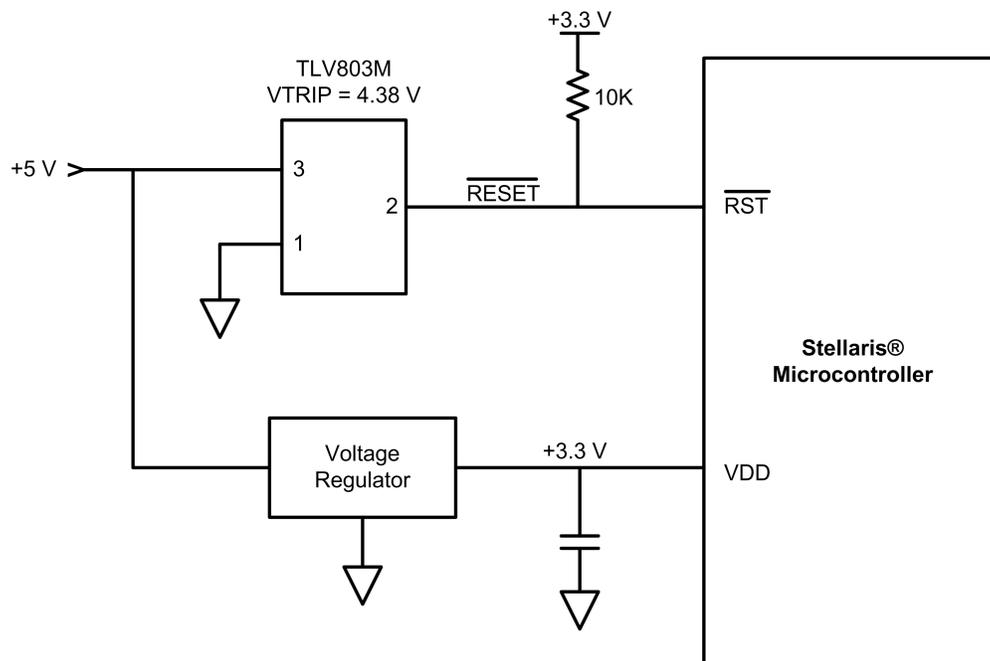
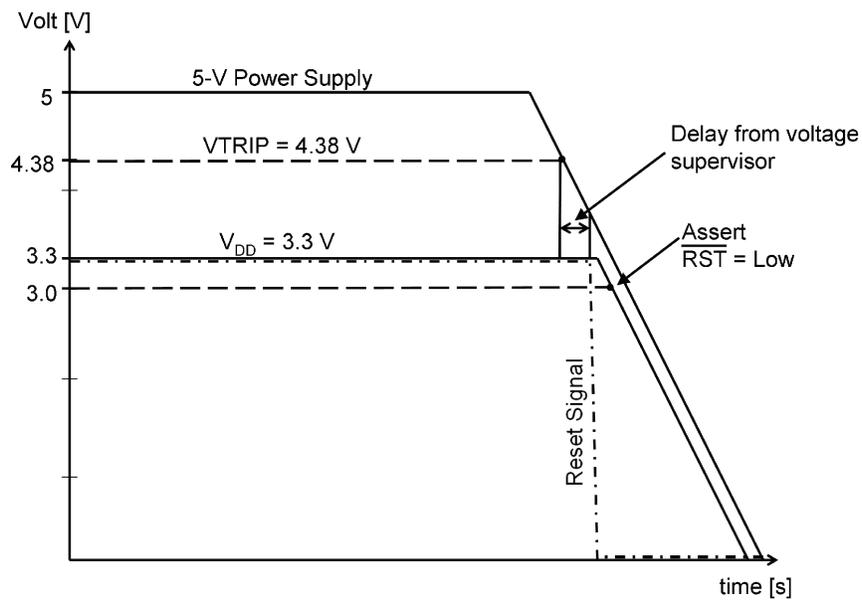

Figure 6. Using a Voltage Supervisor to Monitor the Voltage Rail
Figure 7. Resulting Waveform Using the Voltage Supervisor Circuit
Depending on the system environment requirement, items 4 and 5 in the above list may be met by using a voltage supervisor, such as the TLV803M, to monitor a higher voltage rail from which the VDD supply is regulated. Figure 6 shows this implementation with a voltage supervisor monitoring the 5-V rail and a voltage trip point of 4.38 V. A voltage supervisor with a lower voltage trip point can be used to monitor the VDD (3.3-V) rail, however this supervisor must assert reset before VDD reaches 3.0 V. Regardless of the implemented voltage supervisor circuit, the system designer must ensure that there is enough time to assert $\overline{\text{RST}}$ Low prior to VDD falling below 3.0 V. Figure 7 shows the resulting waveform of the circuit shown in Figure 6.